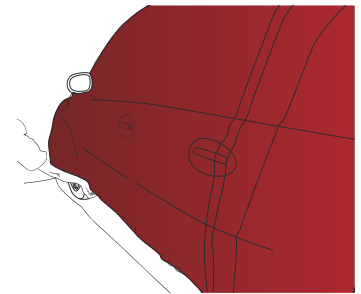

Figure 21
- › Stretch the film over the door handles and, using a squeegee, apply the film all around the door handles. Once the door handles are done, stretch the film down to the bottom of the vehicle body. (FIG. 21)